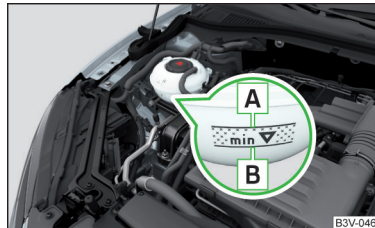

Fig. 319
Check the coolant level - the coolant level must be between the marks **A** and **B** » Fig. 319. If the coolant level is below the mark **B**, refill the coolant. ▶
The **specification** of the coolant is shown on the coolant expansion reservoir » Fig. 319.
- Do not fill the coolant above the mark **A** » Fig. 319. When it heats up, the coolant could press out of the cooling system - there is a risk of damage to the engine parts.